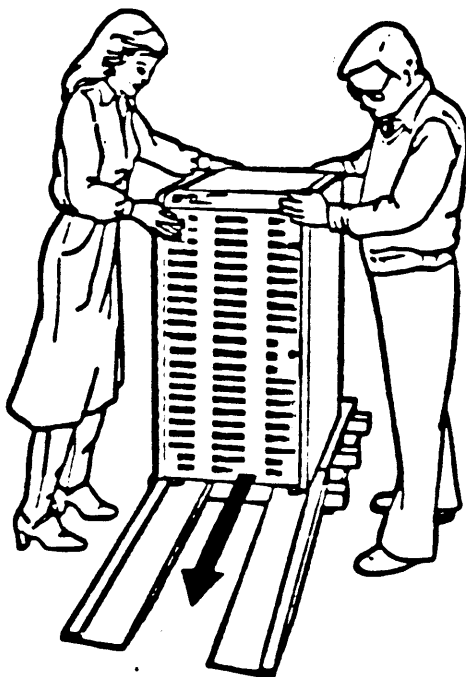

Figure 2-21. Carefully Roll the System Cabinet Down the Ramps.
Step 8: With two people, carefully roll the system unit down the ramps as shown in Figure 2-21.